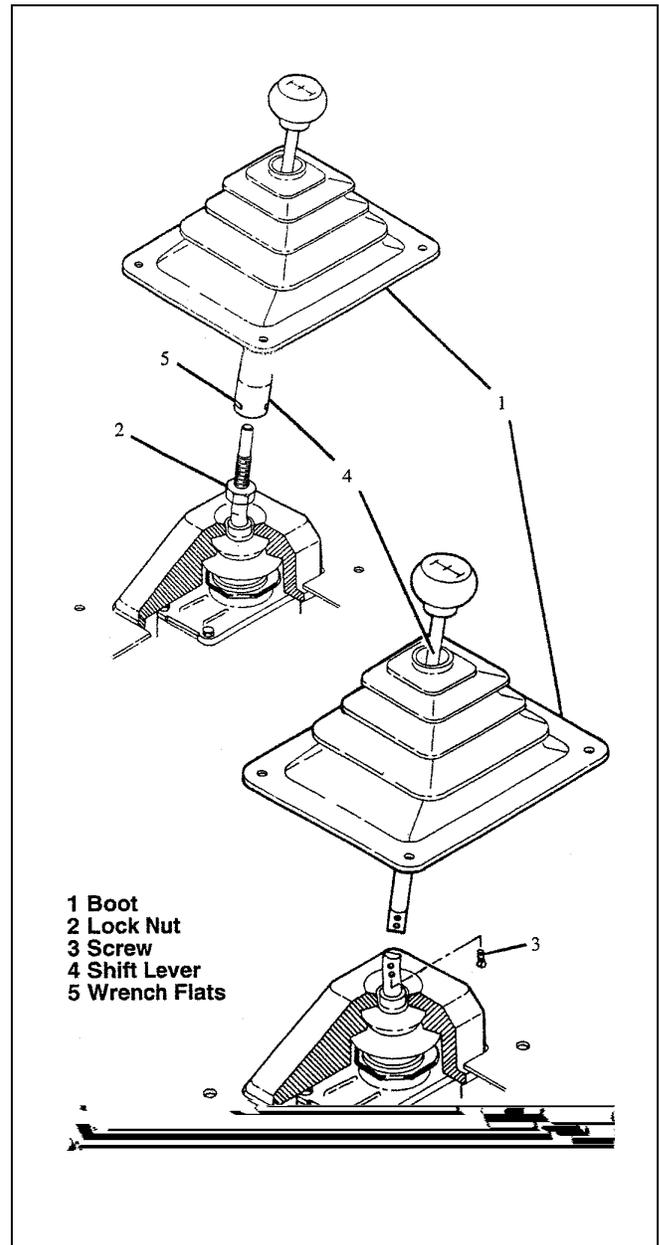

Figure 1-1. Shift Lever
- d. Remove shift lever (see figure 1-1):
1. Detach bottom of boot (1) so that it can be raised to provide access to lower end of shift lever. Boot attachment methods may vary from that shown.
2. If shift lever is threaded on, loosen lock nut (2), then remove shift lever (4) using wrench on flats (5) provided.
3. If shift lever is attached with screws (3), then remove screws (3) and shift lever (4).